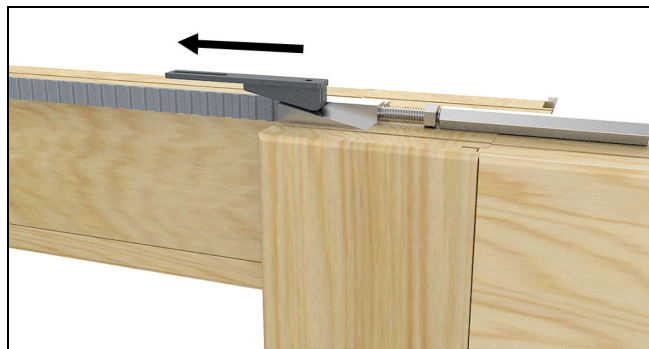

Figure 43
6. Pull the ramp tight so that it fully contacts the turnbuckle. See Figure 43.